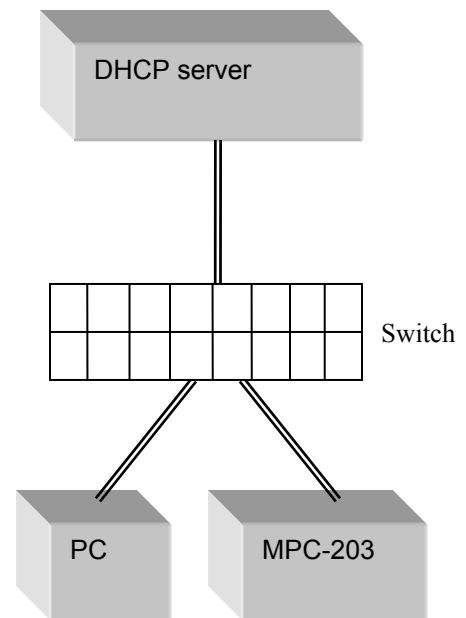

Figure 29 Connection with DHCP server
- b) Dynamic IP: the DHCP server assigns the instrument an available address when requested. Connect the instrument with a DHCP server (running on router or exchange server), as shown in Figure 29. For this configuration, a standard straight-linked network cable must be used.